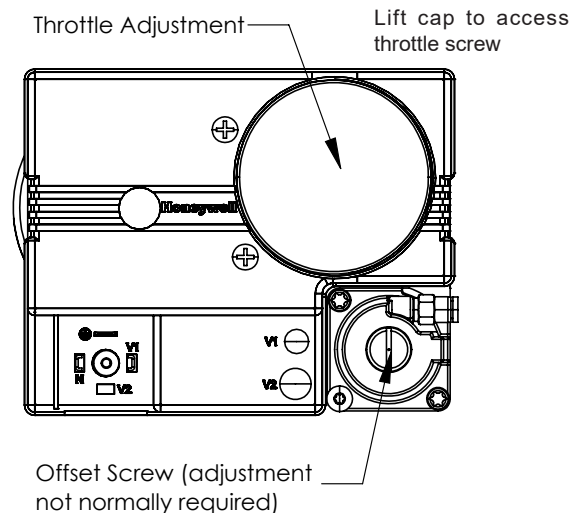
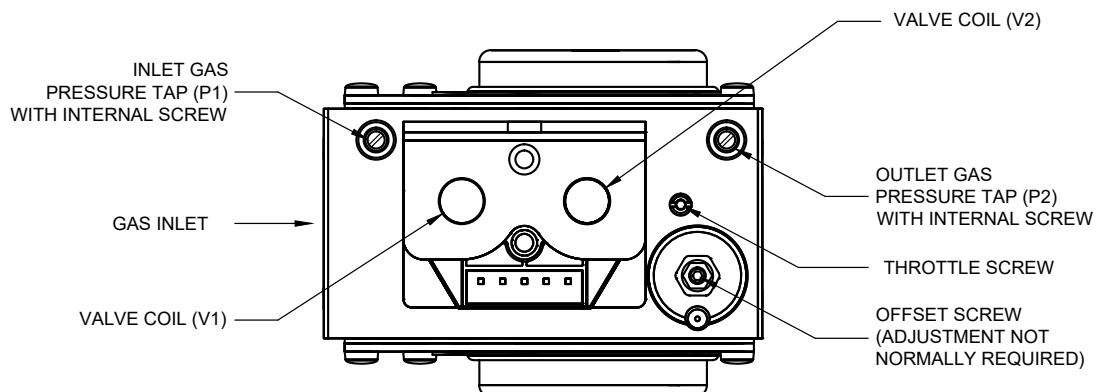

Figure 27: BFIT 500-1000L Gas Valve Adjustment
Figure 28: BFIT 400 Gas Valve Adjustment
- d. If high fire O_2 is too high (CO_2 is too low), decrease O_2 (increase CO_2) by turning the throttle screw counter-clockwise in 1/4 turn increments and checking the O_2 (or CO_2) after each adjustment. Refer to Figure 27 or Figure 28 for location of throttle screw. Verify CO air free is less than 200 ppm.